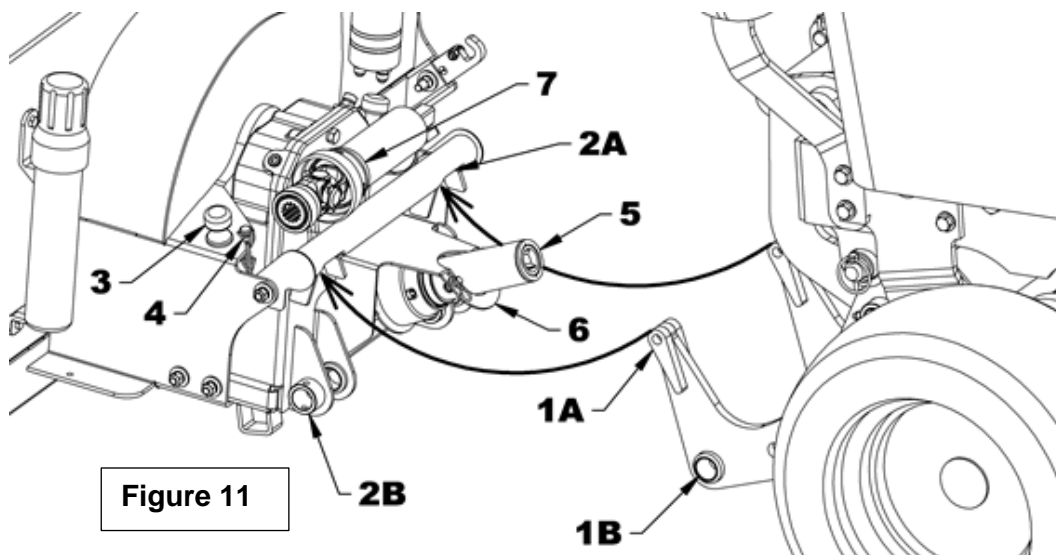

Figure 11
### PRECAUTIONS to follow BEFORE each connection (Figure 11)
## Procedure to follow to Connect the Snowblower (Figures 11 to 17)
- **STEP 1: Figure 11:** Start the tractor, release the parking brake, drive slowly, making sure to align the female hitch on the snowblower with the male hitch on the tractor. Lower the male tractor hitch sufficiently so that the two upper points of the hitch (item 1A) fit into the tube openings (item 2A) of the female hitch of the snowblower.
- **STEP 2: Figure 11:** Using the tractor hydraulic control lever, lift the snowblower fully upwards in order to properly position the snowblower hitch with the male hitch on the tractor. This step will allow the bushings of the male hitch (item 1B) to align well with the bushings of the female hitch of the snowblower (item 2B)